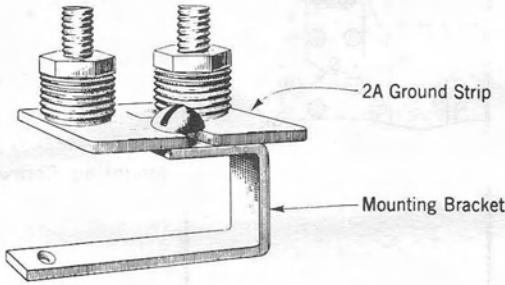
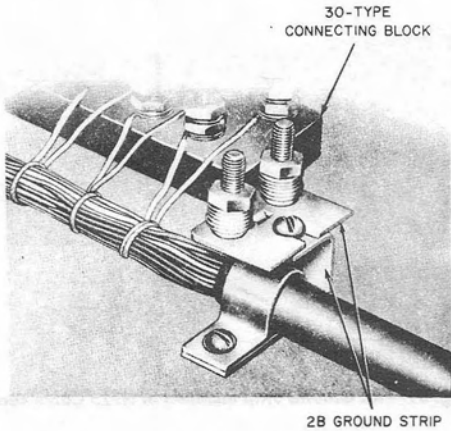

Fig. 51—2B Ground Strip
Fig. 52—Typical Installation of 2B Ground Strip
7.04 The 2B ground strip (Fig. 51) consists of an assembly of the 2A ground strip and a mounting bracket (Table G). See Fig. 52 for a typical installation of the 2B ground strip.